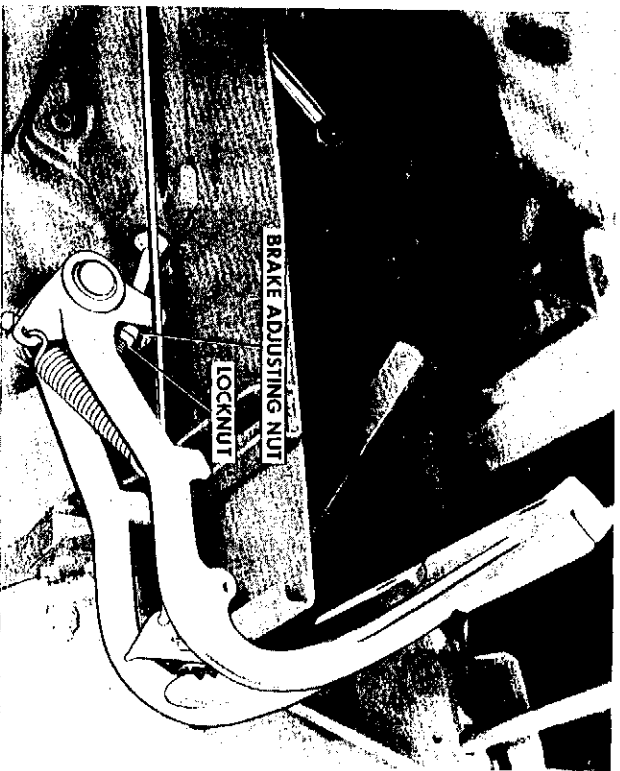

Figure 61. Differential Brake Adjustment
2. Tighten brake adjusting nut, Figure 61, until a slight drag is felt when the tire is rotated.